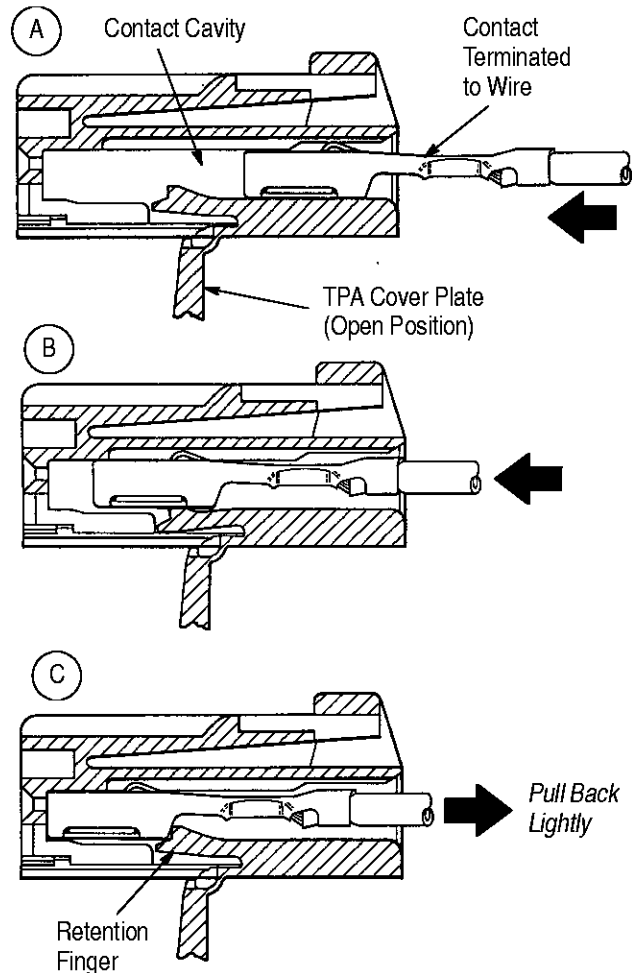

Figure 2
1. Insert a terminated contact by pushing it straight into the appropriate circuit cavity as far as it will go. See Figure 2.